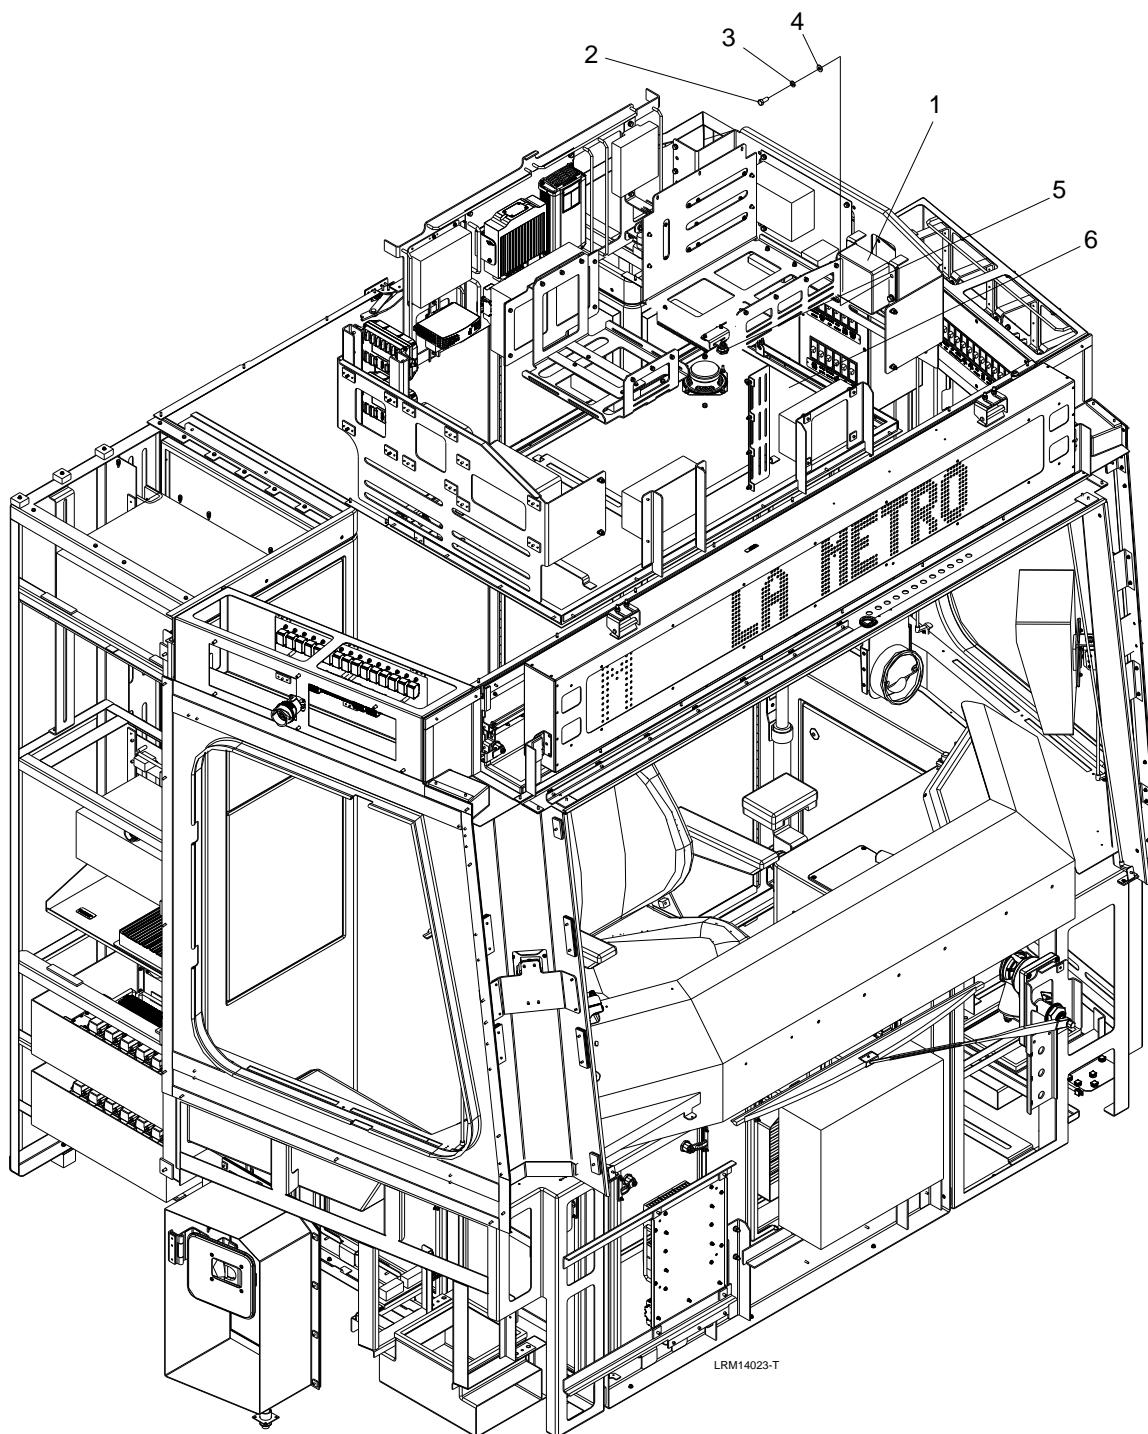

Figure 7-27: Wayside Worker Alert System (WWAS)
1. Unlock the two locks (5) and lower the cab ceiling panel (6) to access the WWAS (1) and disconnect the electrical connectors. See Figure 7-27.
2. Remove the four M8 x 20 bolts (2), M8 lock washers (3), and M8 plain washers (4).
3. Carefully remove the WWAS (1).